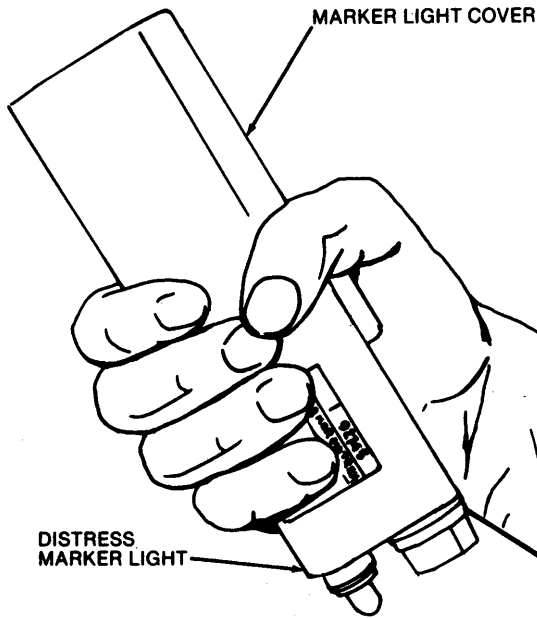

Figure 2-6. Distress Marker
**2-44. SDU-5/E DISTRESS MARKER (Figure 2-4; item 1) See Figure 2-6.**